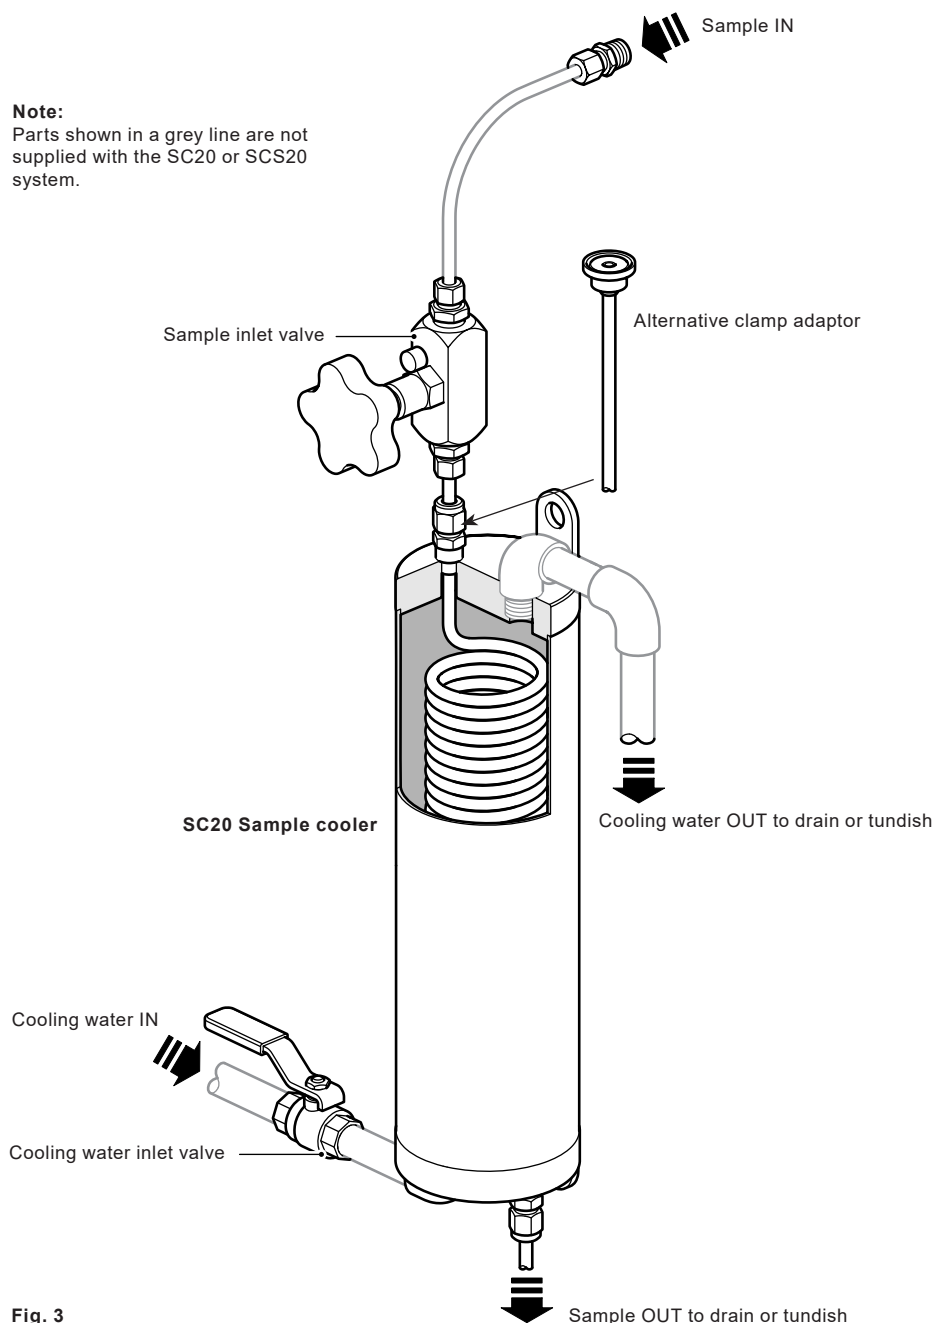

Fig. 3
- Connect the pipework as shown in the drawing (Figure 3). The cooling water IN should be piped to the bottom of the sample cooler in ½" nominal bore pipe via the cooling water inlet valve. A ½" BSP/NPT male/female elbow makes a suitable connector.